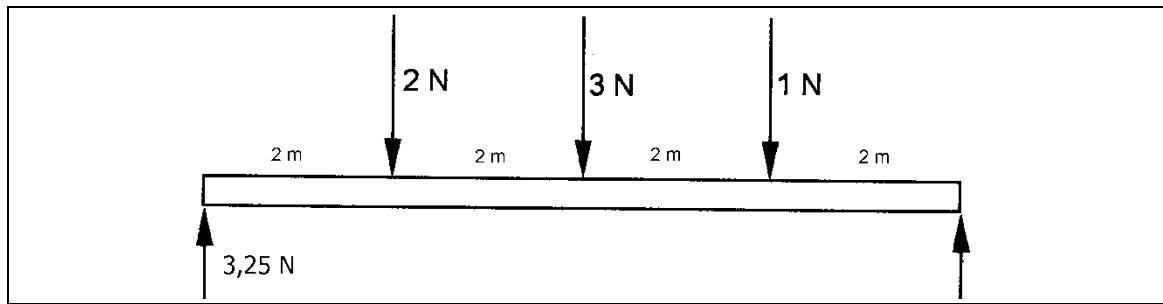

FIGURE 1.20
- 1.20 FIGURE 1.20 shows a beam with three point loads. The left reaction force is 3,25 N.